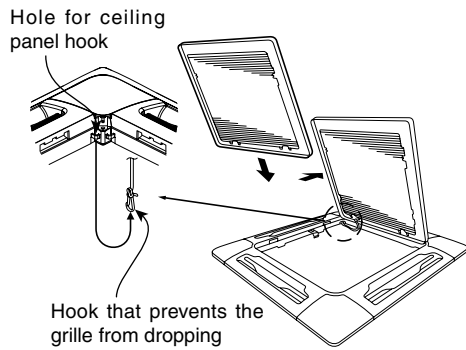

Fig. 9-14
- **Be sure to attach the safety cord to the ceiling panel unit. This keeps the air intake grille from accidentally dropping. (Fig. 9-14)**